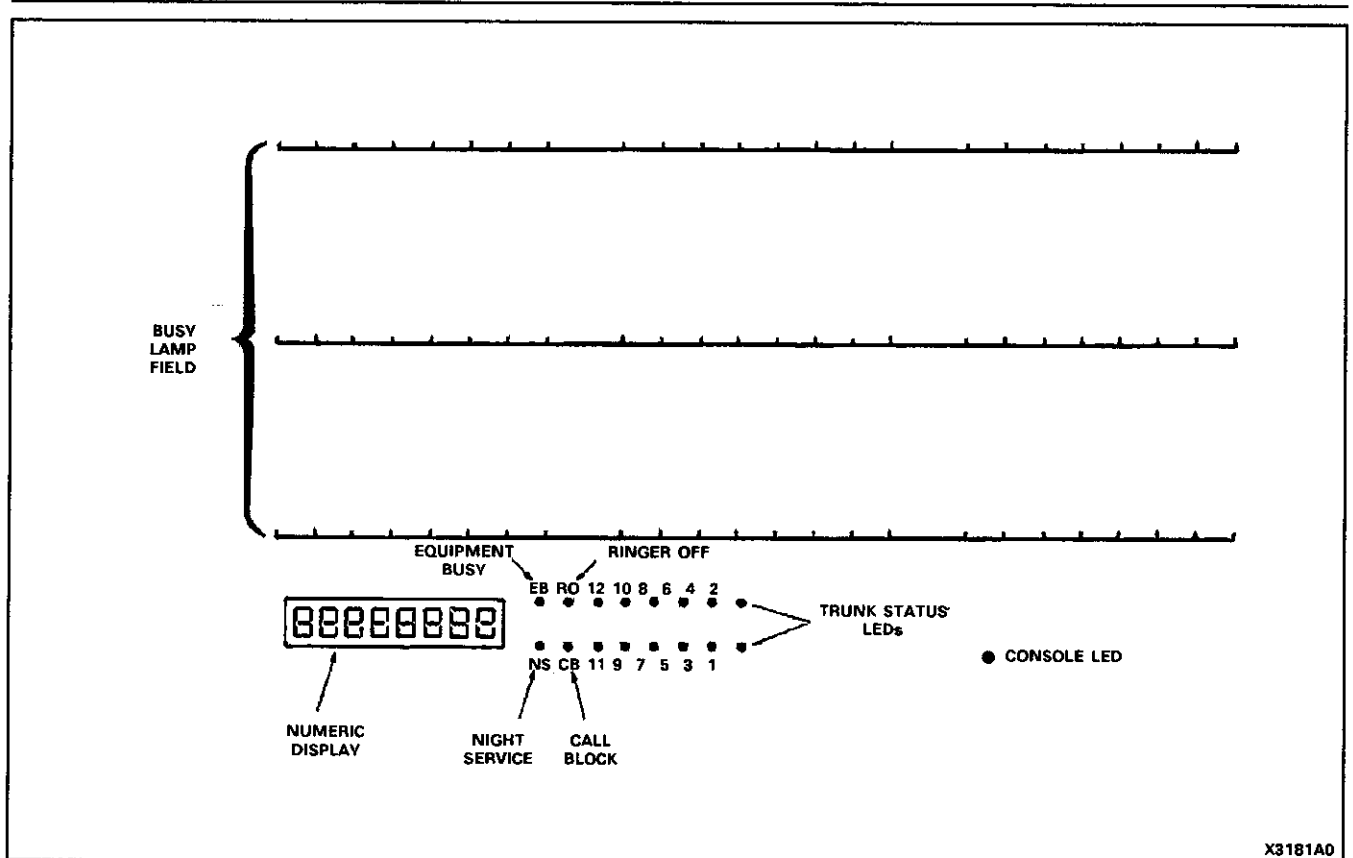

Figure 2-5 Cabinet Call Status Display
- (c) **Equipment Busied (EB) LED.** This LED is located on the Miscellaneous Card in the Cabinet Status Display, the Remote Display and the SX-20 Attendant Console. During normal operation, the system continuously checks itself to ensure that all circuits are operating correctly. Should the automatic diagnostics detect a faulty resource, an alarm is reported, the resource is busied-out and the EB LED flashes. The LED flashes for manual busy-outs as well.
2.22 Equipment Displays. Located on the SX-20 Attendant Console, the equipment cabinet and on the Remote Status Display, are LEDs and numeric displays which are used to indicate the presence of various operating conditions (refer to Figures 2-5 through 2-7). These indicators, as well as their meanings when illuminated, are listed below. Unless otherwise specified, the indicator is provided on all three displays.